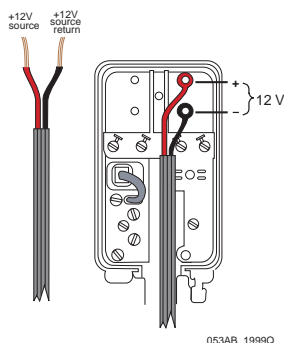

Figure 24. Wiring for power supply
2. Connect the power supply wires to the junction box as shown in Figure 24.